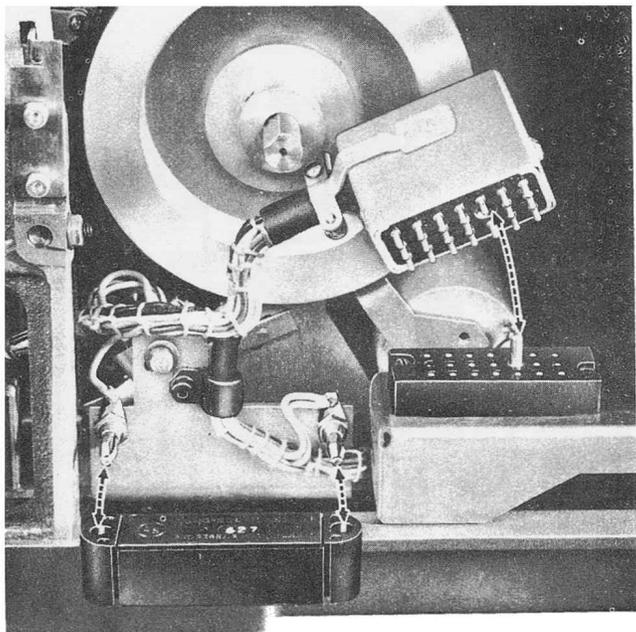

Fig. 6 — 2AB Telephone Answering Set, Showing Tungsol Thermal Flasher No. 627 Removed
6.09 If the No. 627 Tungsol thermal flasher becomes defective, remove it by grasping firmly and pulling straight away from side of answering set (see Fig. 6).